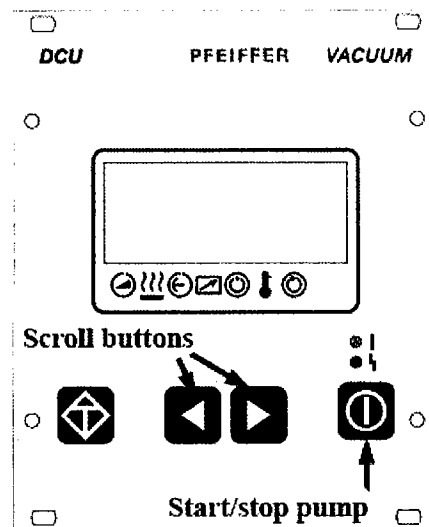

Figure 24 - Pfeiffer TMP controls
Press the button with the circle symbol on the front face of the pump to start (bottom right of Figure 24).
Use the Scroll buttons (left or right) shown on Figure 24 to go through the menus, until you find the display “Act rotspd” (Actual Rotation Speed). Watch **Act rotspd** increase slowly. When it reaches 1500 Hz (or is equal to **Set RotSpd**, if different than 1500 Hz), continue to the next step.
3. Stop the TMP by pressing the button on the front face (as shown in Figure 24) and allow it to spin down to Actual Rotation Speed (“Act Rotspd” indicator) of 0 Hz. This takes a few minutes.